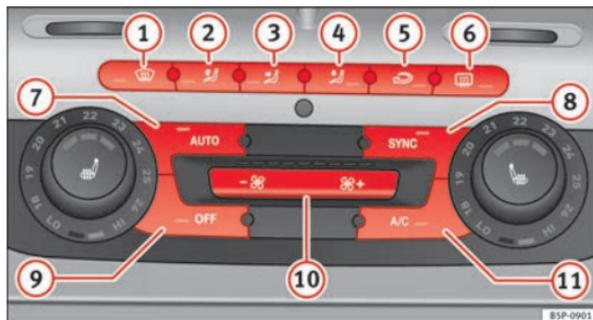

Fig. 131 On the dash panel: 2C Climatronic controls.
- To enter manual mode, press one of the buttons \Rightarrow Fig. 131  to  or press the air flow control . The selected function is shown on the radio or navigator display.
- Press the button  ⇒ Fig. 131  to switch air recirculation mode on or off. It is switched on if the following symbol appears in the display .